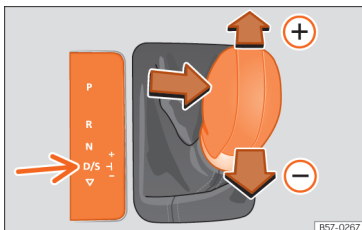

Fig. 90 Lever in the Tiptronic position
- Move the lever forwards (+) or backwards (-) to change up or down a gear »» Fig. 90.